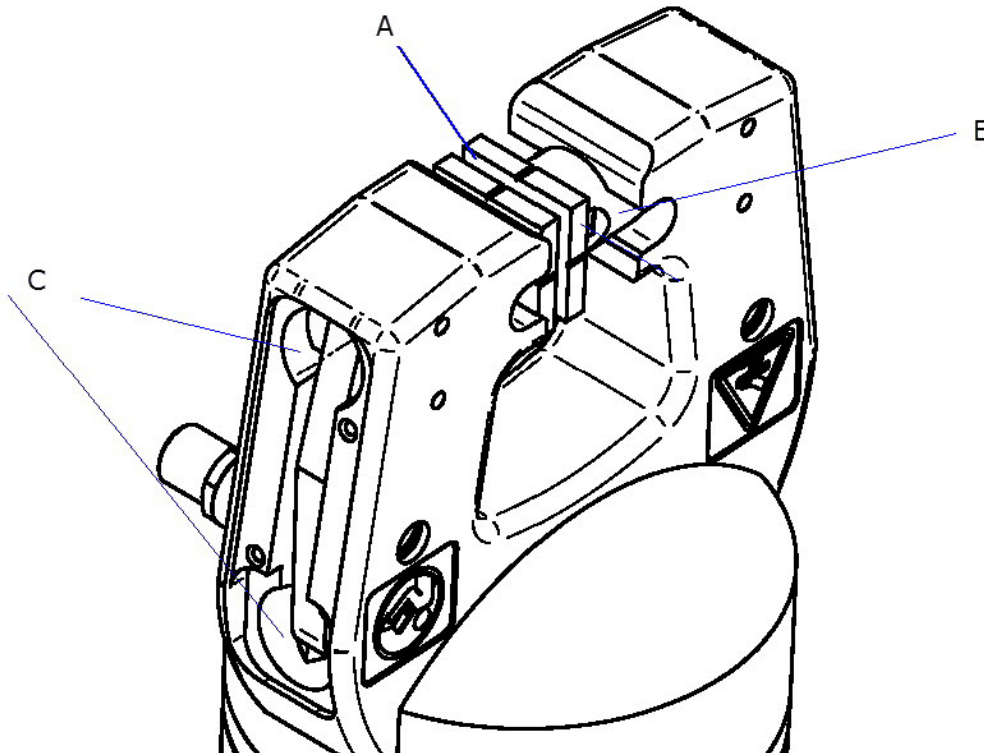

Figure 22. Grips Lubrication Points
2. Using a cotton swab, smear a light coating of grease on the two main bores (refer to Figure 22 on page 54).